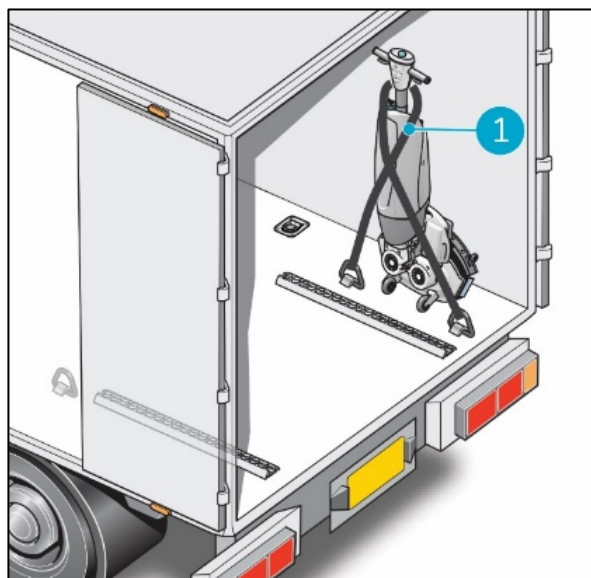

Figure 7
5. Secure the i-mop, using a tension belt or another appropriate restraint (Figure 7, pos 1).